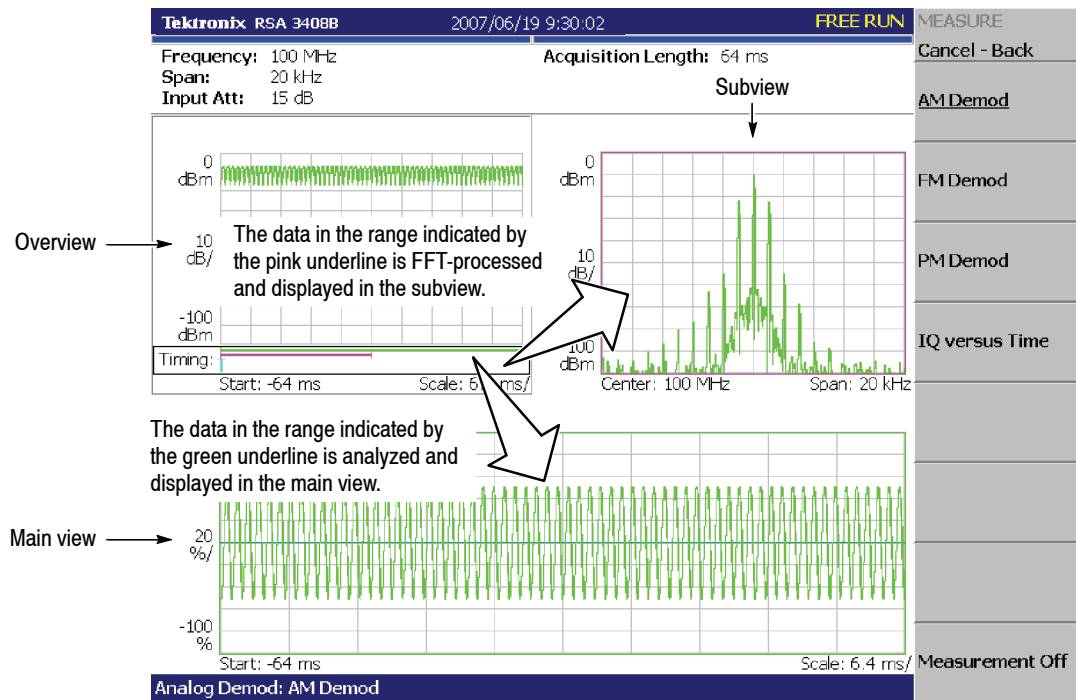

Figure 2-51: AM signal measurement
2. Press the **Run/Stop** key to acquire the signal (see Figure 2-51).